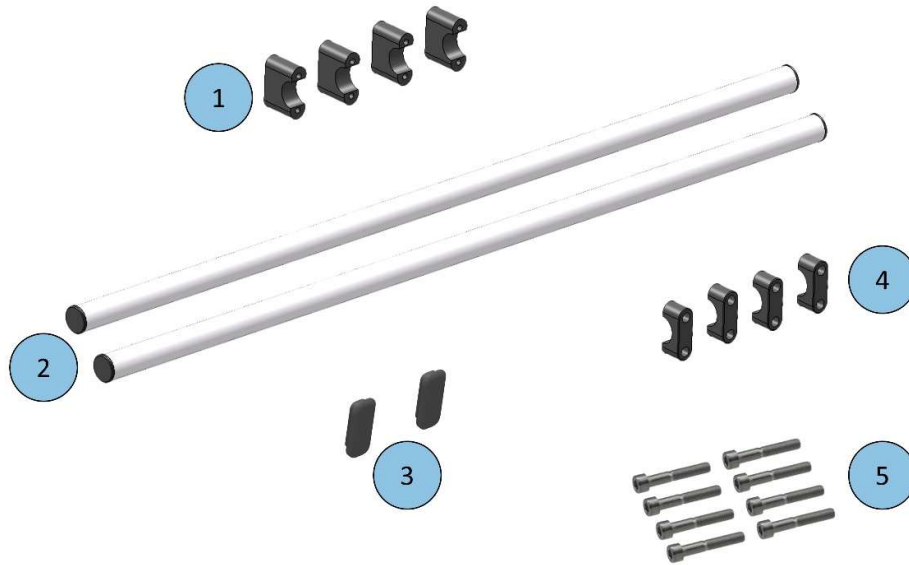

Figure 11-1 Lifting Assembly Kit.
1. Part of the Lifting Assembly Kit, visualized in *Figure 11-1* and *Table 11-2*.
The Lifting Assembly Kit is visualized in *Figure 11-1* and *Table 11-2*.